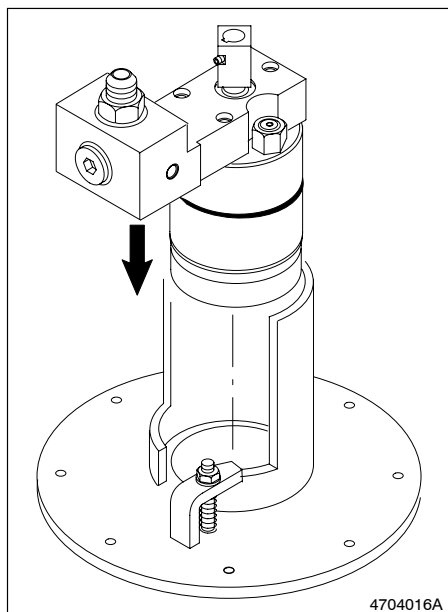

Fig. 7-33 Placing the Pump Assembly in the Platen
2. See Figure 7-33. Coat the pump body O-ring with O-ring lubricant and slide the gear pump assembly into the pump pocket.